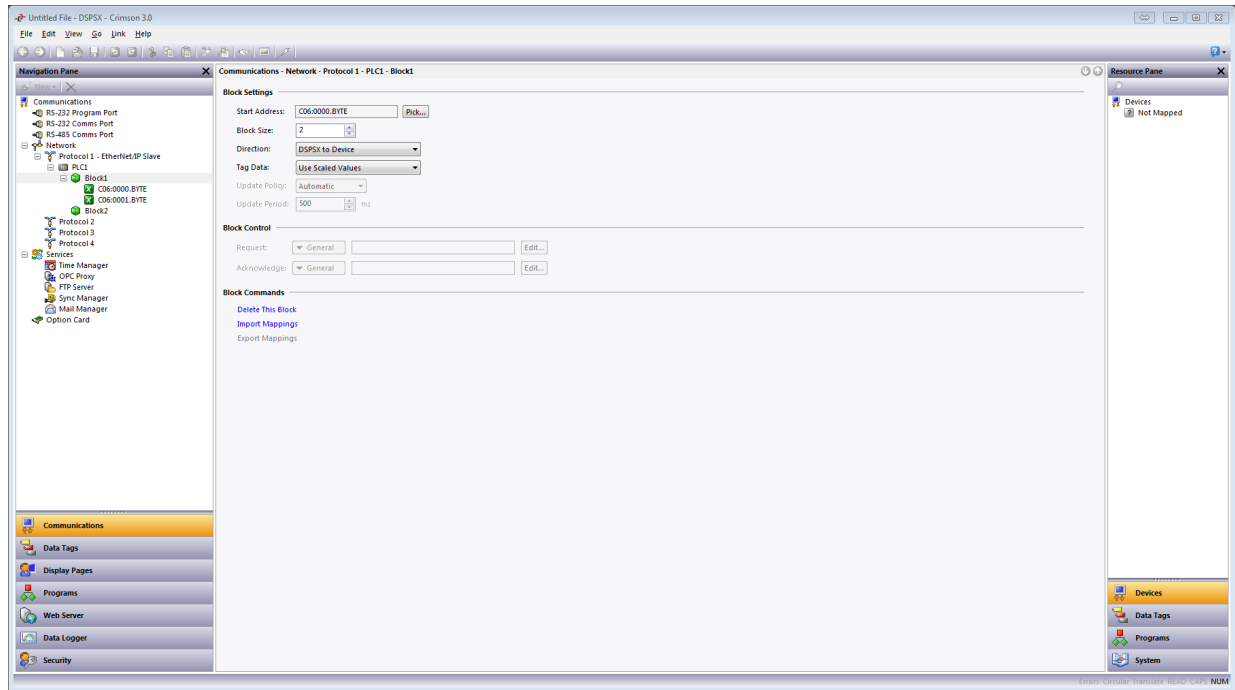

Figure 7.
e. Referring to Figure 7, specify the Block Size: field; 2 in this example.